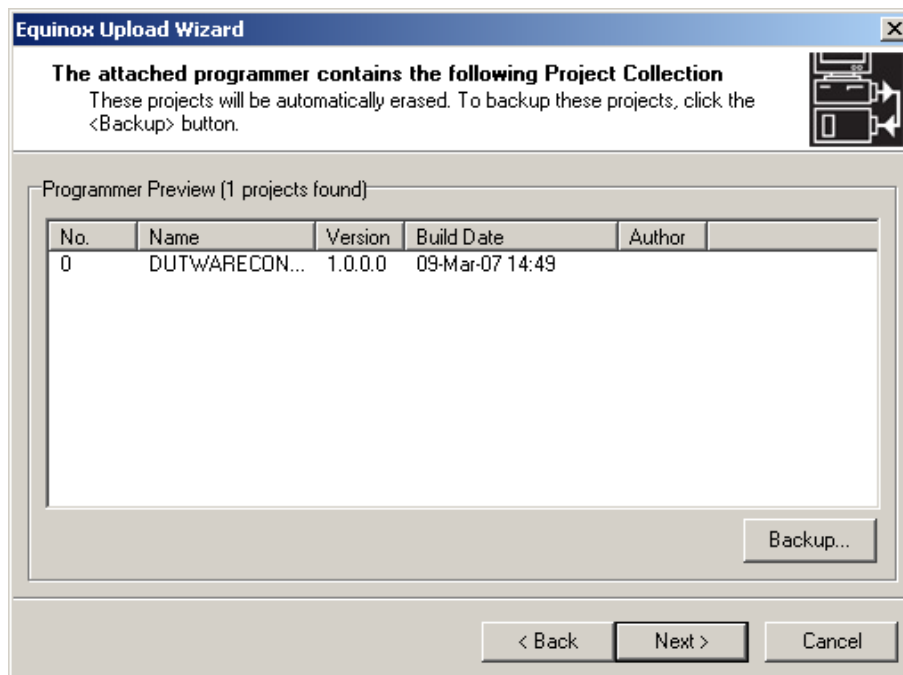

Figure 23 Programmer Upload Wizard – Current Project Collections
6. Press *Next* and the window depicted in Figure 23 will open.